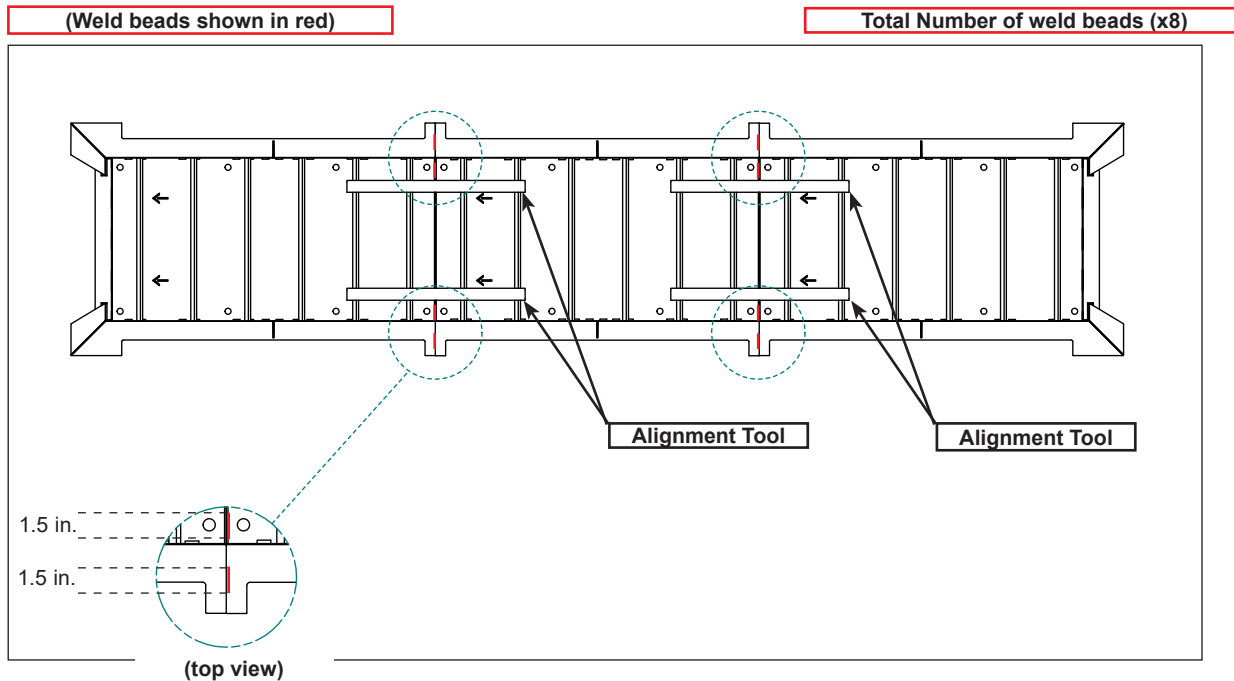

Figure 25
1. Mock up the ground plates and the distance between each section, using the alignment tool provided. See **figure 25**
5. Weld the restraining plate sections using a stick welding machine. See **figure 25** on page 26.